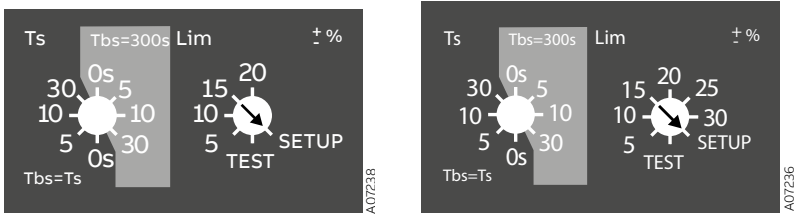

Figure 4.9 Setting of SETUP mode with Lim rotary switch in automatic control units OMD100 (left), OMD200 and OMD300 (right).
2. Choose SETUP mode with Lim rotary switch according to the Figure 4.9